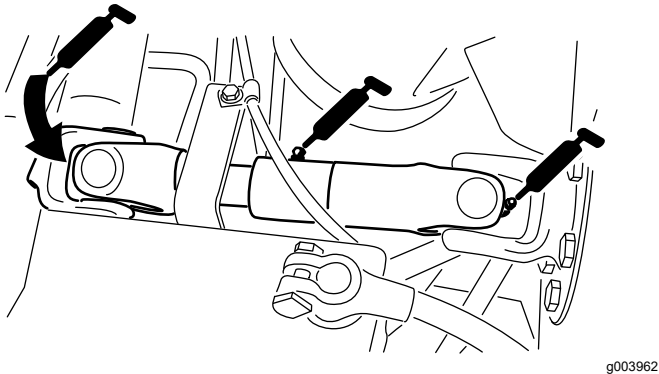

Figure 39
- Pump driveshaft U-joint (3)—Figure 39